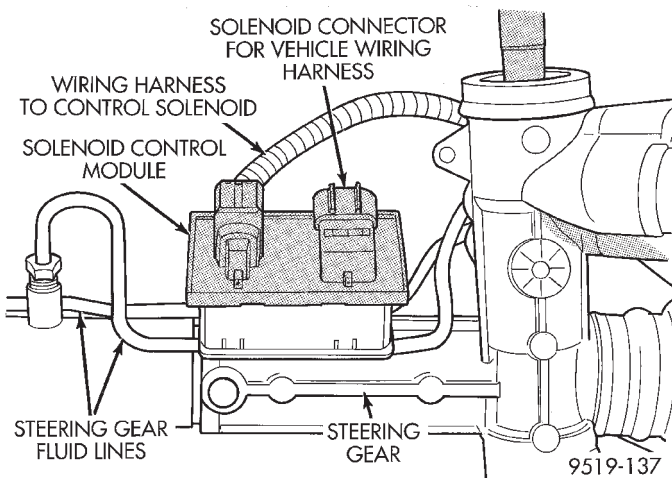

Fig. 2 Solenoid Control Module Location On Steering Gear
The solenoid control module (Fig. 2) is mounted on the steering gear assembly fluid lines (Fig. 2) using attaching clips on back of module. The solenoid control module is removable from the steering gear for servicing, without removing steering gear from vehicle.
(1) Remove wiring harness connectors from solenoid control module (Fig. 2).
(2) Connect wiring harness connectors onto solenoid control module (Fig. 2). **Be sure wiring harness connector seals are on connectors and in good condition before installing connectors on control module.**